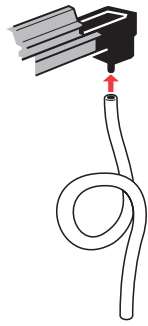

Figure 10
(f) Install drain tubes (2) onto drain caps. (Fig. 10)